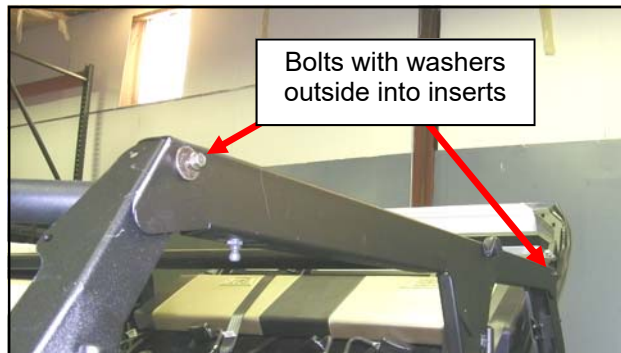

Fig. 7.1 (Header placement)
7.1 Per figure 7.1, place the left Header on top of the upper left ROPS and align the holes in the upper flange of the panel to the holes in the ROPS. Insert a 1/4-20 bolt with washer into the threaded inserts in the A-Pillar and C-pillar and leave loose. Repeat for the right side.